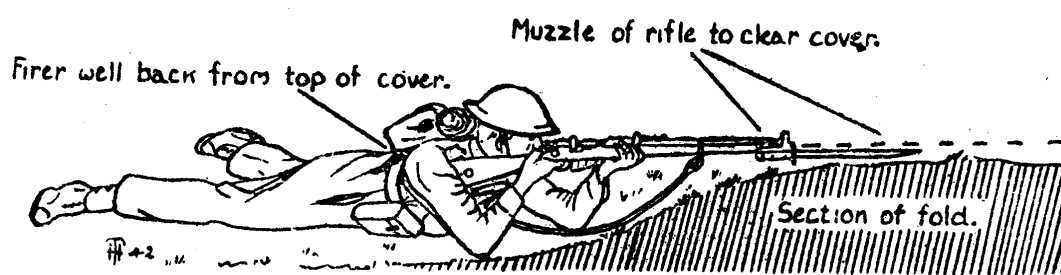

Fig. 10
*Position of readiness:*- On the "Range" being ordered, or, if acting individually, set the sights to the estimated range and slide the rifle cautiously forward over the cover and adopt a position as near to the "Loading position" as possible, safety catch forward. On the target being indicated, aim. The left wrist and hand should be rested on the cover if possible. If the cover is hard, then the rifle is rested as near the point of balance as possible, fore end clear of cover. The left hand should be clear of the magazine and hard against the cover, both elbows being rested if possible. When firing from a fold in the ground the body and rifle should be back behind the crest, with the muzzle just above the crest of the cover (see Fig. 10).